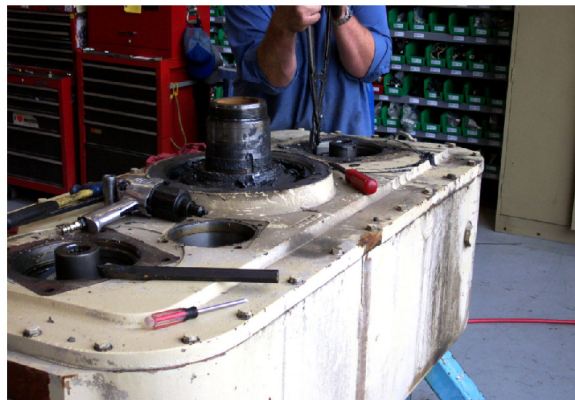

Figure 14
15. Remove snap rings from above the input pinion bearings (Figure 14).